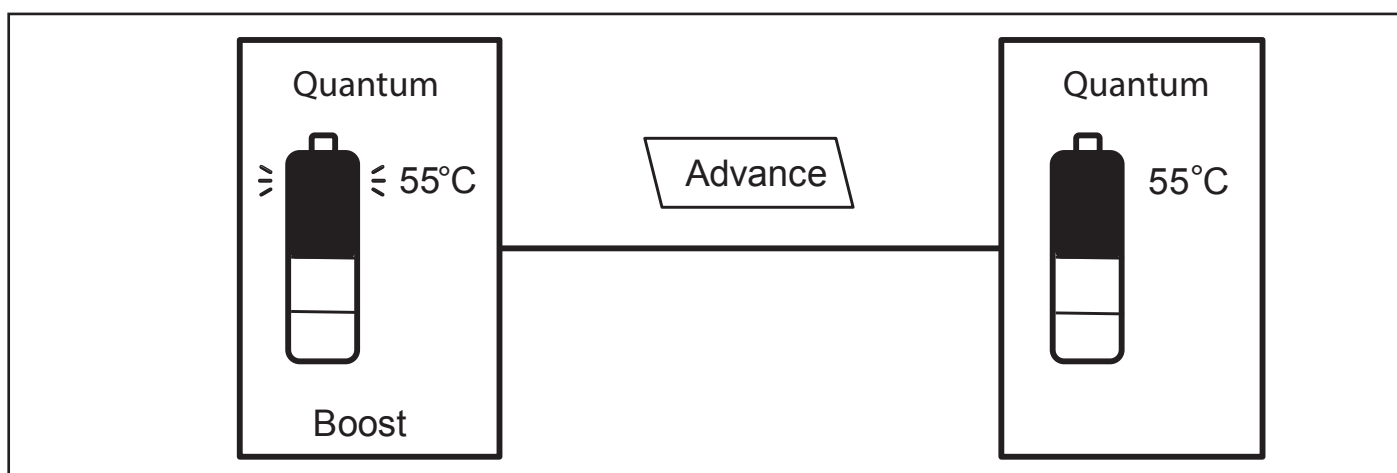

Figure 19: How to Activate and De-Activate the Boost Immersion Heater
- press the advance button again to de-activate (see Figure 19)